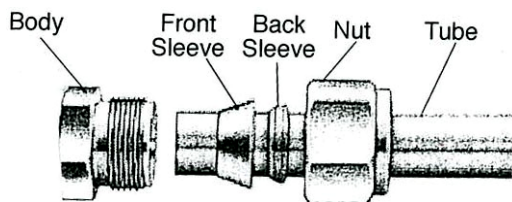

Figure 9 - Compression Fitting
- Step 4: Slide the tubing into the open connection point and tighten the nut to secure the tubing. Refer to Figure 9. Fitting Connections for assistance to assemble the tubing connection. Refer to Figure 10 - Utility Connections for assistance locating the proper fitting connection on the enclosure for the sample to be connected.
All wet and air connections are made with user supplied OD tubing using the compression fittings attached to the SSR-Ex. **All air and water tubing connected to the instrument is to be supplied by others.** When using the compression fittings, see Figure 9 - Compression Fitting and then follow these steps: